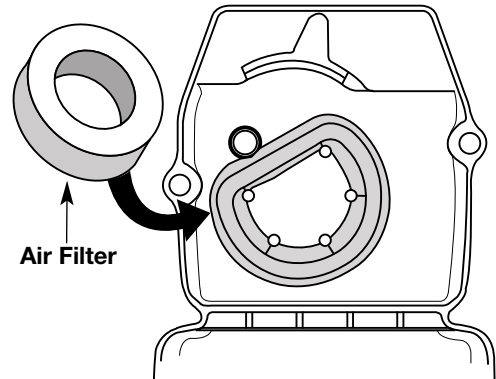

Fig. 32
2. Remove the air filter from behind the air filter/muffler cover (Fig. 32).
6. Replace the air filter in the air filter/muffler cover (Fig. 32).